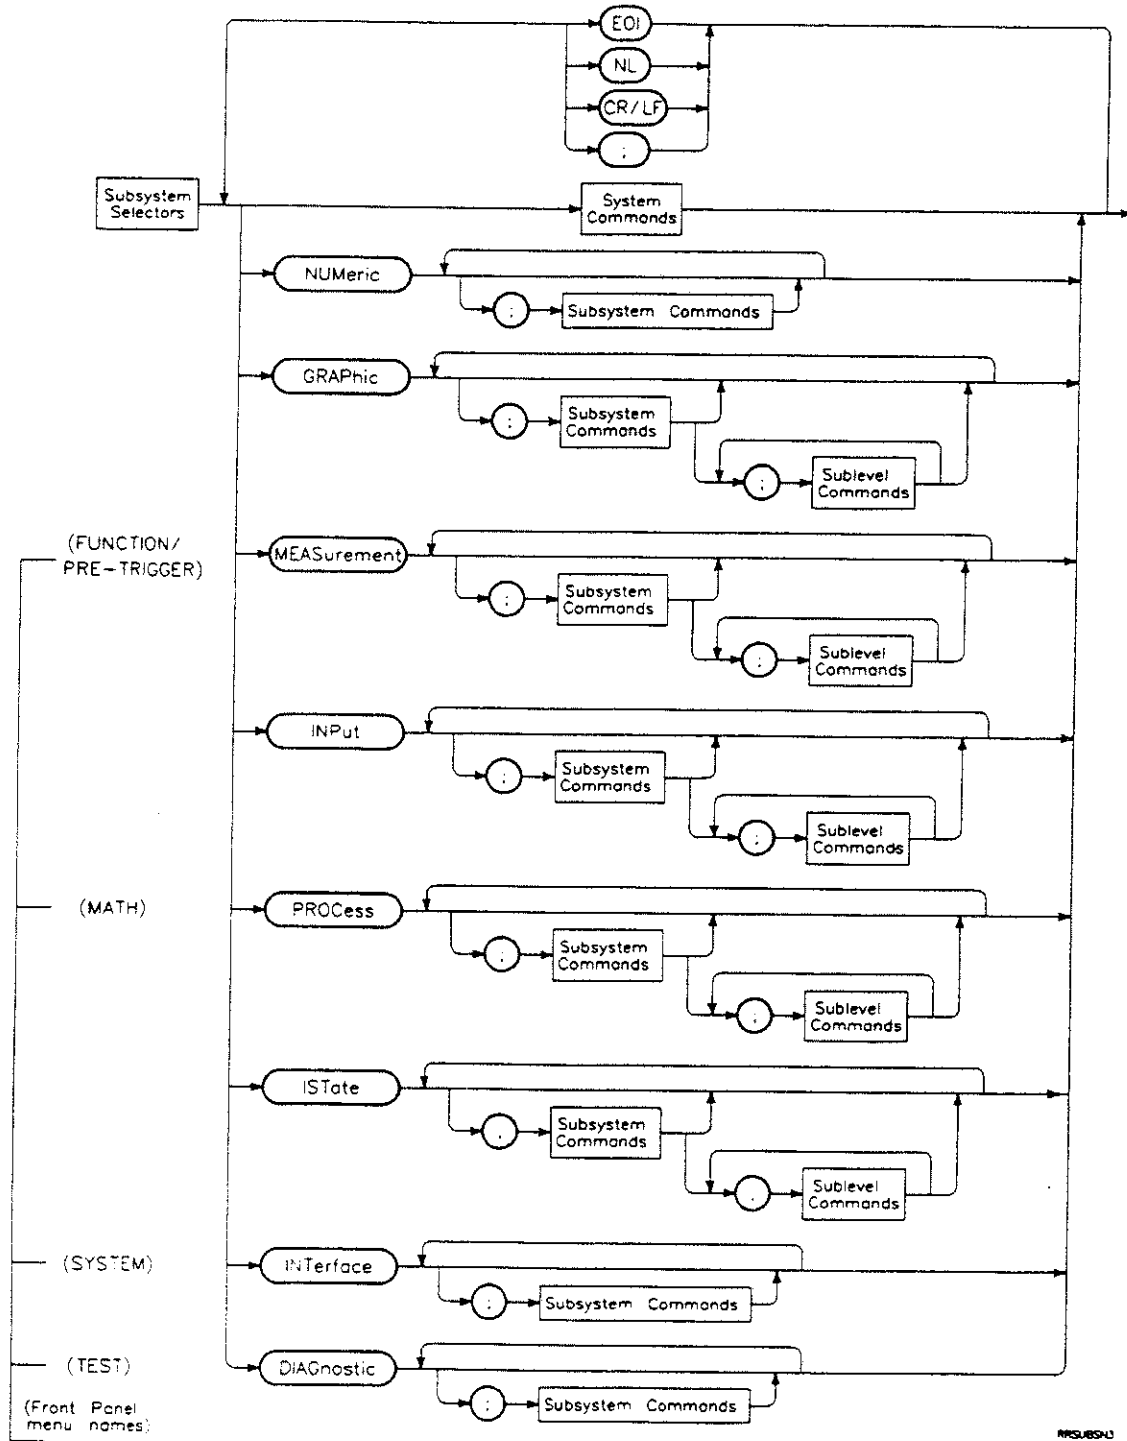

Figure 4-4. Top Level Command Syntax Diagram
*Figure 4-4* is a top level command syntax diagram. This diagram relates the entire subsystem and sublevel command structure and graphically reveals how you can string commands together, using delimiters as appropriate. Use the syntax diagrams to work out program flow and visually distinguish subsystem commands and sublevel commands.